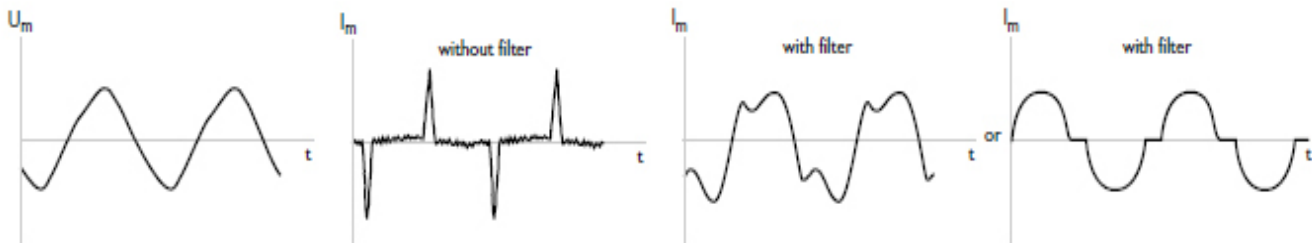

Fig. 45 Mains voltage and mains current, the latter without and with low-pass filter.
- Limitation of the harmonic distortion, so that its level remains within international standards (see Fig. 45).